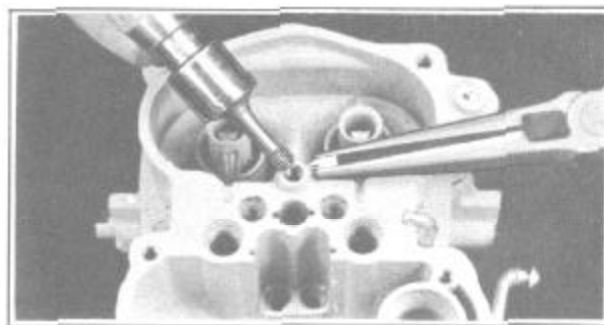

FIGURE 68
9. Install pump check needle, Figure 68.